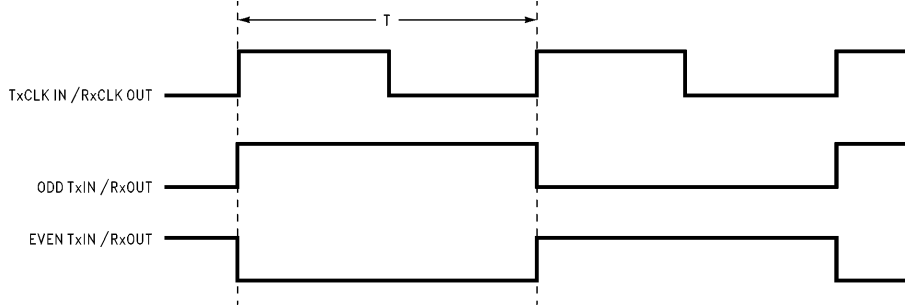
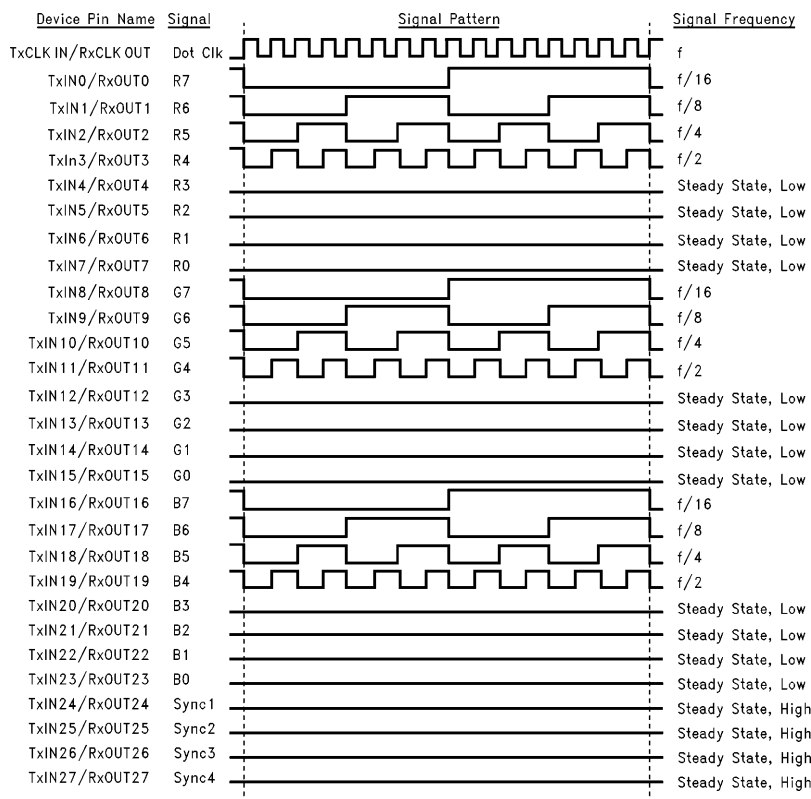

FIGURE 1. "WORST CASE" Test Pattern
FIGURE 2. "16 GRAYSCALE" Test Pattern
**Note 3:** Figure 1 and Figure 2 show a falling edge data strobe (TxCLK IN/RxCLK OUT).